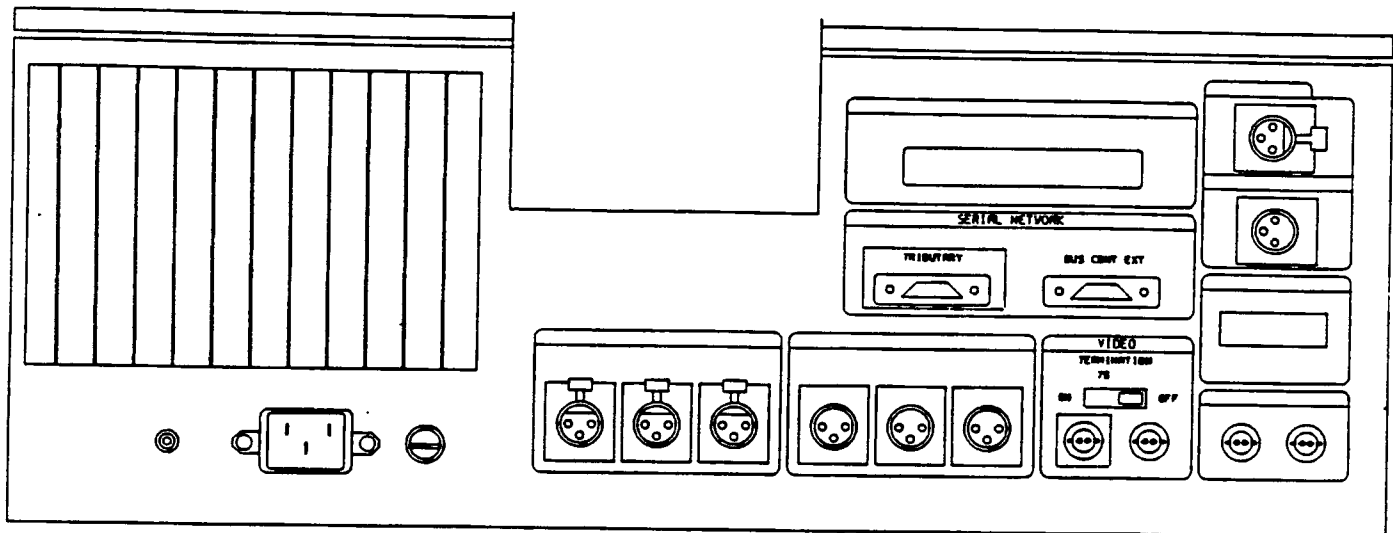

Figure 1. Rear Panel Connectors
1. The Editor must be connected to the APR-5003V via the **TRIBUTARY** serial port on the rear panel of the machine. (See Figure 1.)